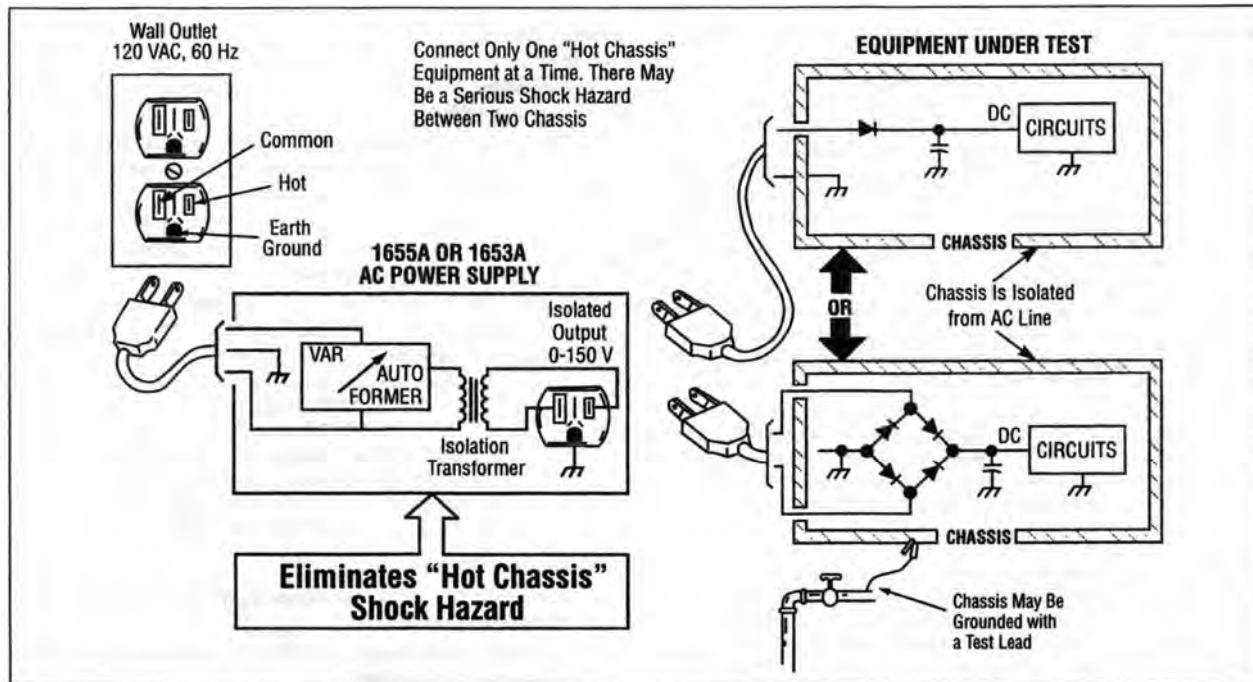

Figure 8. Eliminating the Hazard of Servicing Transformerless Equipment
As shown in Fig. 8, when an isolation transformer is used, the chassis of the equipment under test is electrically isolated from both sides of the power line. The chassis of the equipment under test may not be grounded by connecting a test lead from the chassis to a convenient earth ground (such as an earth ground terminal of the test equipment).
4. Connect the ac power plug to the equipment under test to the ISOLATED OUTPUT receptacle of the ac power supply. This provides the isolation as shown in Fig. 8.